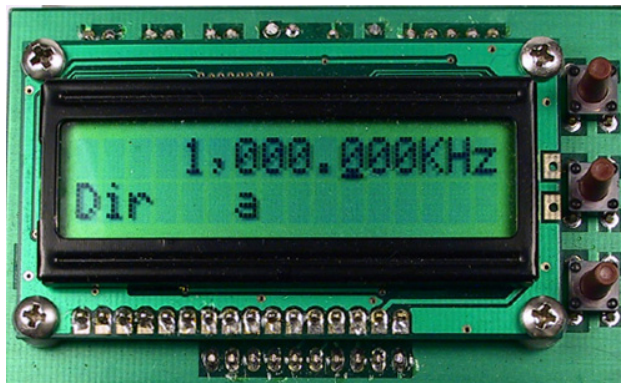

Figure 23. Operational FCC-2 Display
- Apply a 12 volt DC supply to FCC-1 JP1. Pin 1 is negative. The display should indicate **FCC-2 MKII** on the top line and **Ver 1.0** on the bottom. This will be displayed for about a second. The top line should then display **1,000.000 KHz**. The second line should read **Dir a**, as shown in **Figure 23**.